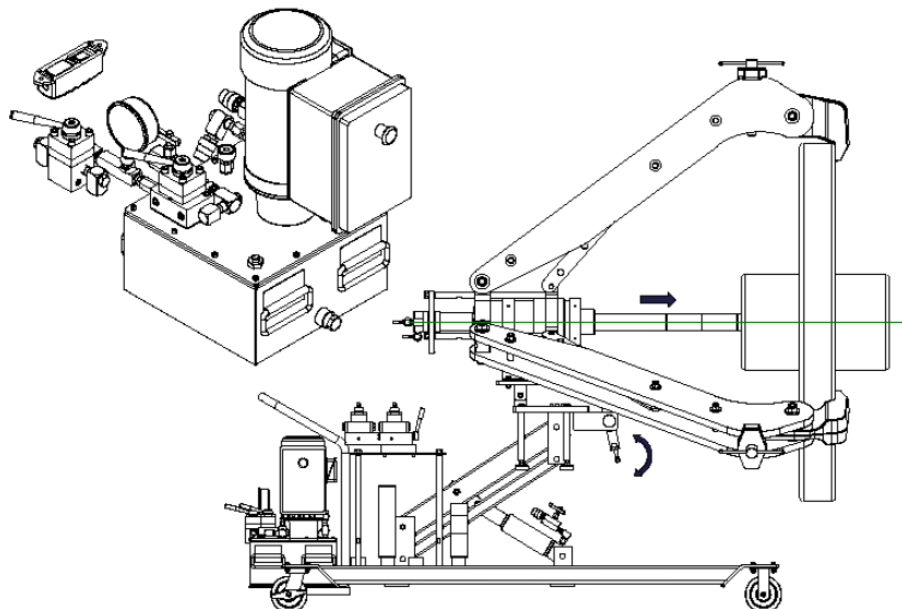

Figure 6 – Advancing the Forcing Cylinder
5.3.6 Once the puller is aligned, press the button on the remote switch to advance the forcing cylinder (PULL CYL.) toward the object, stopping just as the cylinder head touches the shaft (see Figure 6).